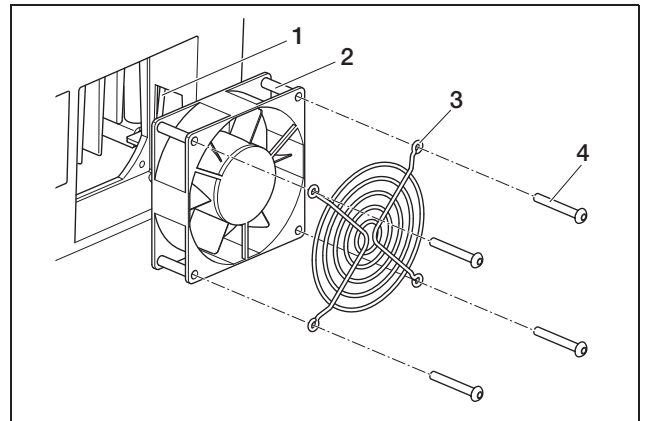

Fig. 82: Removing the fan (PIKO 3.0/3.6/4.2/5.5)
- PIKO 3.0/3.6/4.2/5.5: Loosen the screws (4 in fig. 82) and carefully remove the fan grille and the fan.